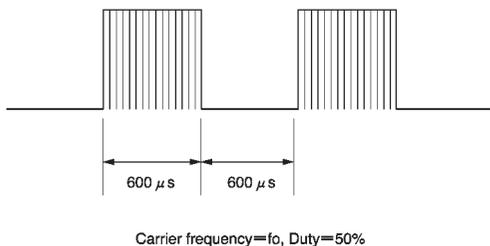
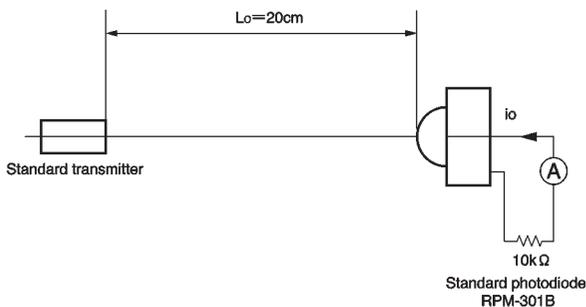
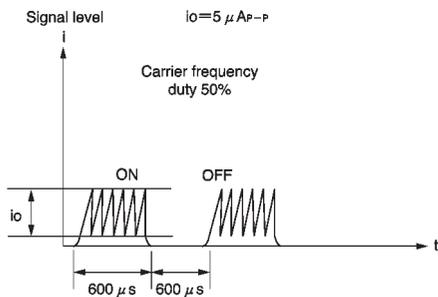

Fig.1 Transmit signal
Fig.2 Measurement of standard transmitter proofreading
Fig.3 Standard photodiode current
*1 The burst wave form mentioned in fig.1 is to be transmitted from standard transmitter (fig.2).
When standard transmitter output the signal at Fig.1 standard photodiode output become $i_o = 5 \mu\text{A P-P}$ under the measurement condition Fig.2, Fig.3.
(1) All characteristics of the receiver in this specification are specified by supplying burst wave form with ROHM standard transmitter (Fig.2).